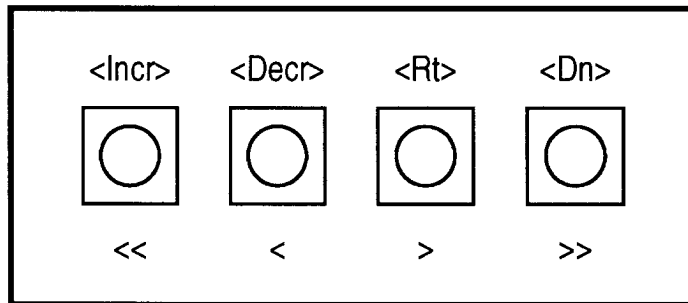

Figure 3–8. Phase adjustment switches.
1. Open segments 8 and 10 of the Operational Selection switch (S11). A row of dashes appears in the LED display to indicate that the VITS 201 is in genlock test mode. This changes the function of the <Increment>, <Decrement>, <Right>, and <Down> momentary switches to phase adjustment, as shown in Figure 3–8.